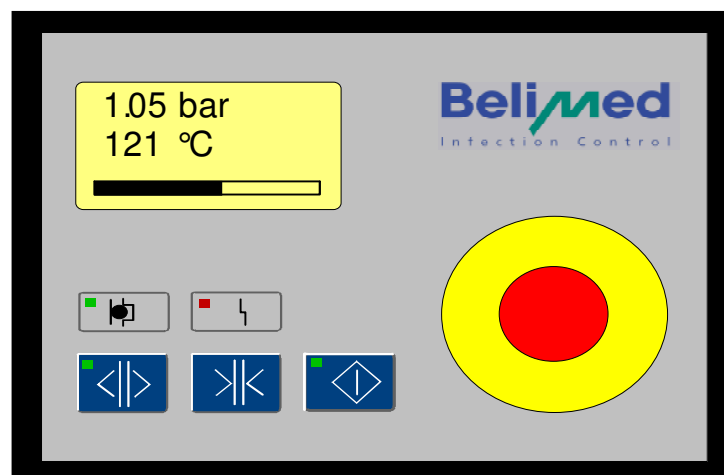

Figure 4-2: Labeling Electrical Ratings
- Electrical ratings (Figure 4-2) are given on the label located in the upper part inside the servicing door of the operating end